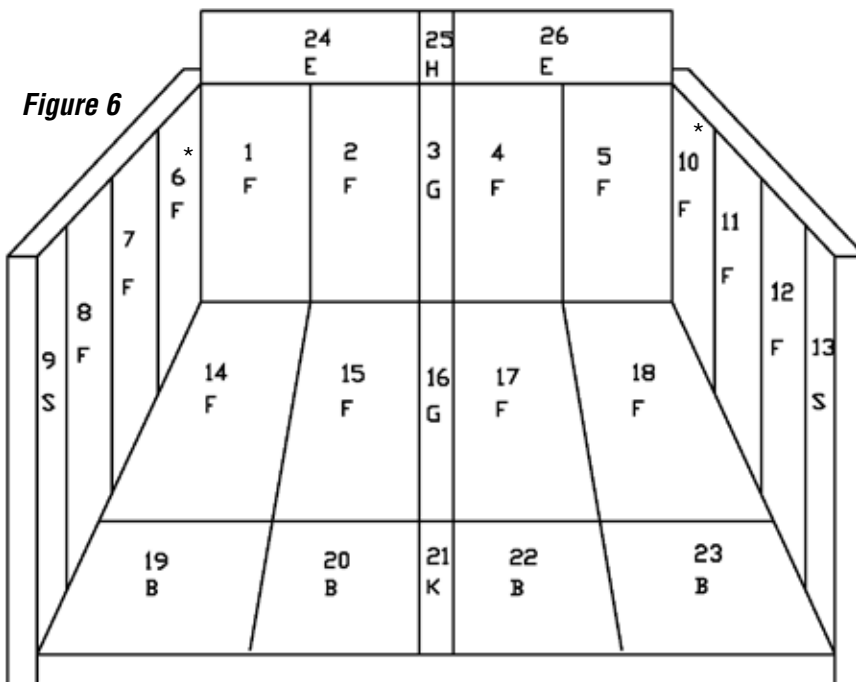

Figure 6
1. Install bricks #1-26 in the numbered sequence shown in **Figure 6** on **Page 12**.